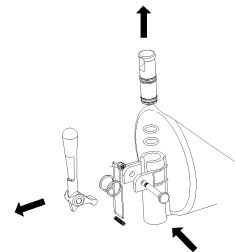

figure 6
6.Dismantle the faucet assembly(fig .6)
3. Assemble the faucet by reversing the disassembly steps(fig.6)